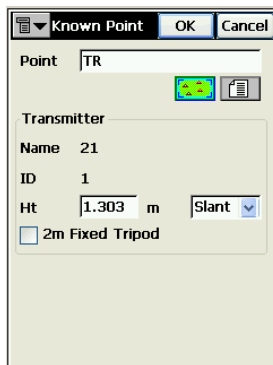

Figure A-2. Transmitter Over Known Point
- If *Known Trans Horz Pos* was selected, the **Known Point** screen displays. Select the point over which the transmitter was setup using the **map** or **list** buttons and tap **OK** (Figure A-2).